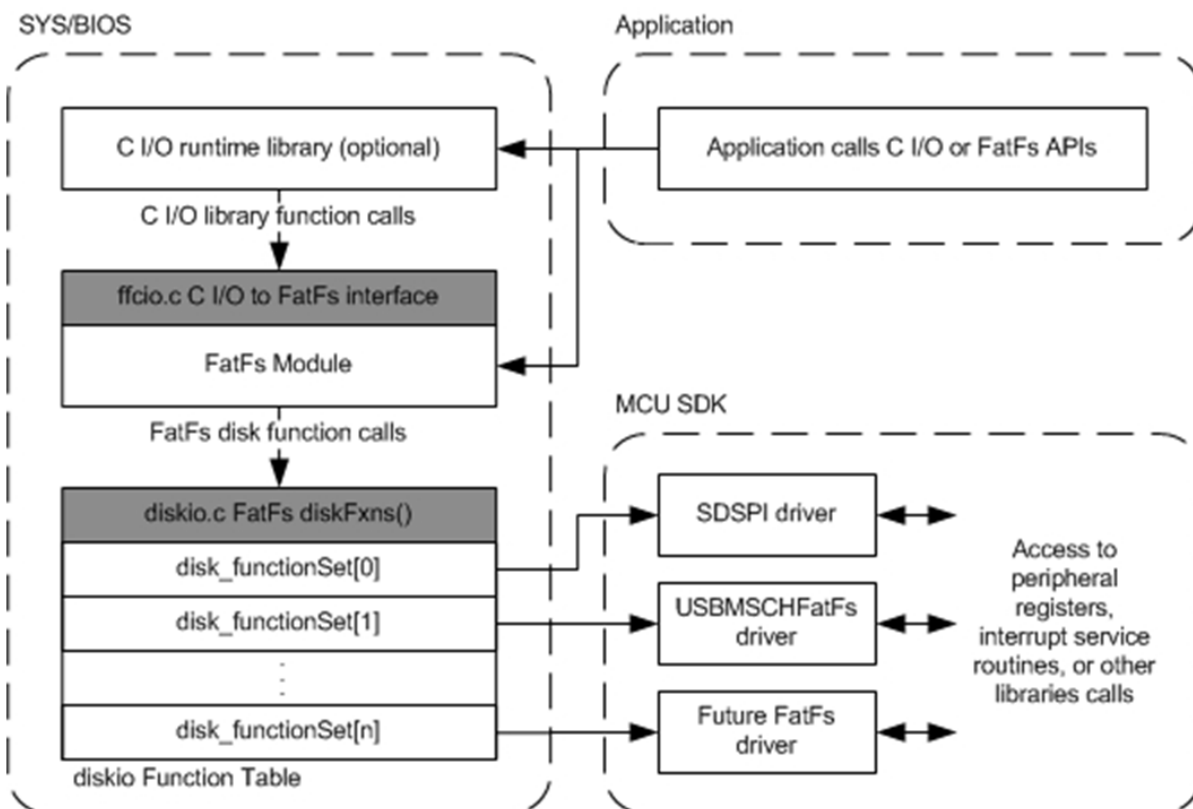

Figure 7-1 FatFs data flow
- **FatFs drivers.** The last layer in Figure 7-1 is the FatFs drivers. TI-RTOS comes with pre-built FatFs drivers that plug into the FatFS module provided by SYS/BIOS. A FatFs driver has no knowledge of the internal workings of FatFs. Its only task is to perform disk-specific operations such as initialization, reading, and writing. The FatFs driver performs read and write operations in data block units called sectors (commonly 512 bytes). Details about writing data to the device are left to the particular FatFs driver, which typically accesses a peripheral's hardware registers or uses a driver library.